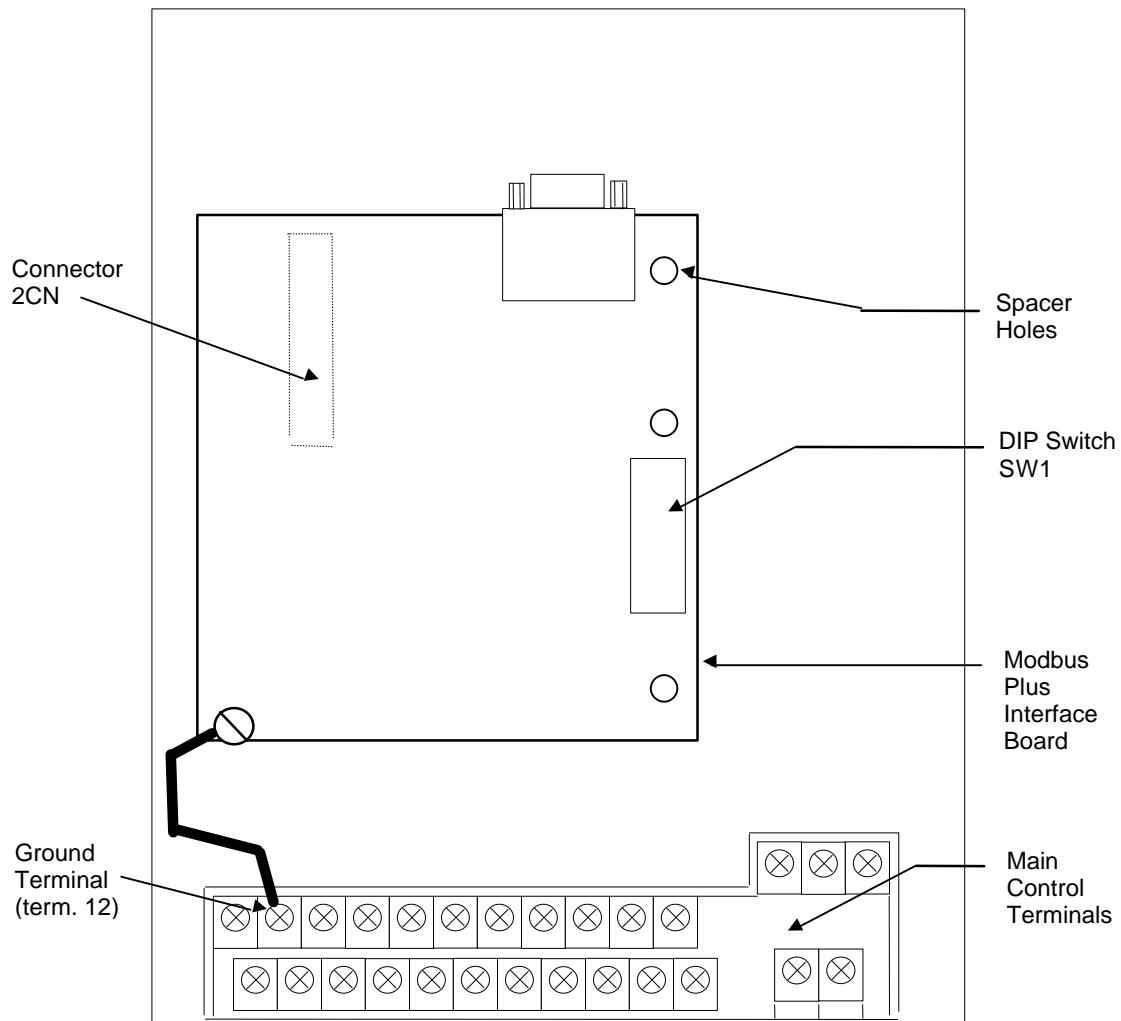

Figure 3-1. MB+ Board Mounting Position
4. Orient the MB+ board as shown in Figure 3-1.